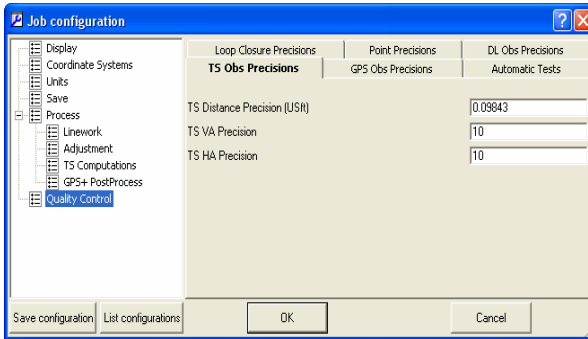

Figure 2-32. Job Configuration – TS Obs Precisions
- The *TS Obs Precisions* tab sets precision for a distance and horizontal/vertical angle of TS observations (Figure 2-32 on page 2-21). If the values of the distance/horizontal/vertical residuals from a net adjustment—with Rejection Criterion-By Control—are worse than the values set in this tab, the observations are highlighted in red on the *TS Obs* tab, Map view, and Reports. These observations will not be used in the final adjustment of the net.